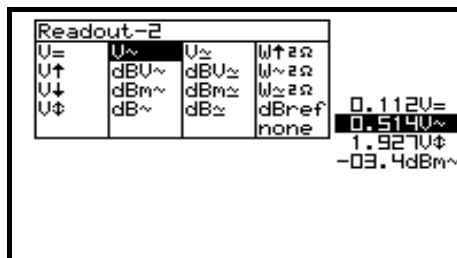

Fig 18
3. Pressing the 'meter'-key selects the second readout location (Fig. 18)
4. Press the cursorkeys to highlight the desired readout function for meter2 readout. (Fig. 18)